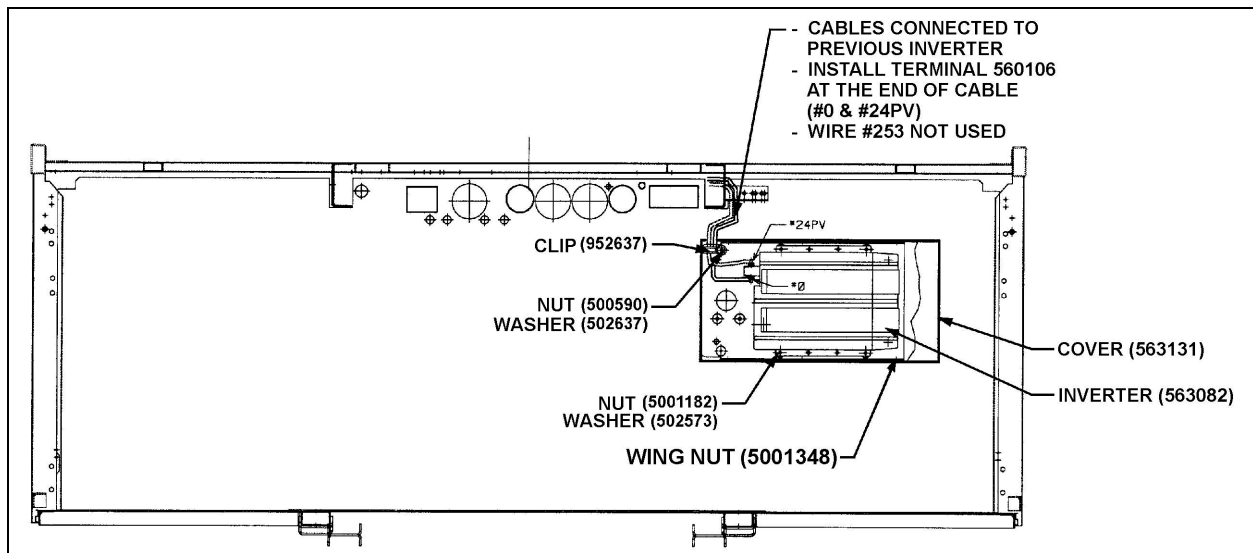

FIGURE 2
4. Install a terminal (560106) at the end of cables #0 & #24PV and fix cables onto inverter as per figure 2. Cut wire #253 and secure cables using cable clip (952637), wing nut (5001348), washer (502637) and nut (500590).